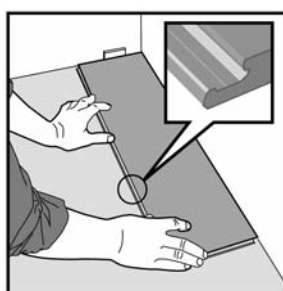
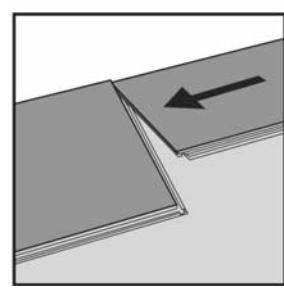
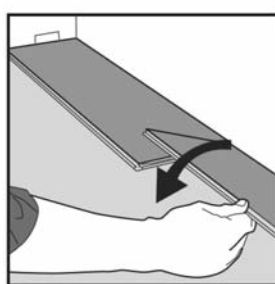
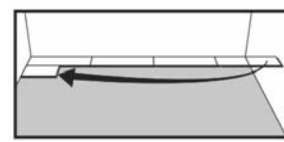

Fig. 1
Fig. 2
Fig. 3
Fig. 4
- Begin laying the floor in the left corner of the room. Dry lay a few rows (no glue or nails) before starting installation to confirm your layout decision and working line. Start the first row with the **tongue edge facing the wall.** Begin installing the first row by laying a board down flat on the subfloor (Fig. 1). Align the end of the second board (Fig. 2) with the first and simply push it straight down on top of first board (Fig. 3). Repeat this step to install the remaining boards in the first row. When cutting the last plank in a row to fit, you can use the cut-off end to begin the next row (Fig. 4). If cut-off end is less than 12", discard it and instead use one of the pre-cut row starter boards in the carton, or cut a new plank at a random length (greater than 12") and use it to start the next row.
- Begin laying the floor in the left corner of the room. **ALL BOARDS SHOULD BE INSTALLED WITH THE TONGUE SIDE FACING THE WALL.** (See figure 1)
- Begin installing the first row by laying a board down flat on the subfloor (figure 4). Align the end of the second board with the first and snap end locking system together by simply pushing it straight down on top of first board. Repeat this step to install the remaining boards in the first row. Cut the last board in the row to the necessary length or use an end board that was supplied in the carton. If leftover piece is 12" or longer, use it to begin the next row, or use start board supplied in the carton. (figure 2 &3).